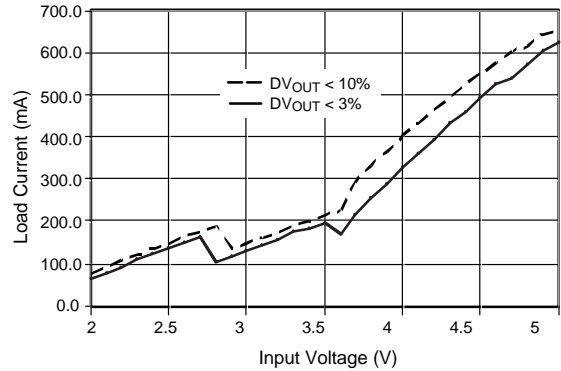

Figure 9. Output Current Capacity vs. Input voltage
- Refer to Figure 9 in Typical Performance Characteristics